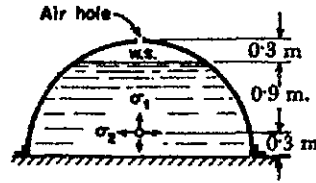

Fig. 6
- 6 An inverted hemispherical shell of mean radius  $R = 1.5 \text{ m}$  and wall thickness  $t = 0.025 \text{ cm}$  is bolted to a horizontal slab and filled with water (specific weight  $w = 1 \text{ gm/cm}^3$ ) to a depth  $h = 1.2 \text{ m}$  as shown in Fig. 6. There is a small air hole at the top of the shell to equalize inside and outside air pressure. Calculate the principal membrane stresses  $\sigma_1$  and  $\sigma_2$  for an element A of the shell 0.3 m above the base.